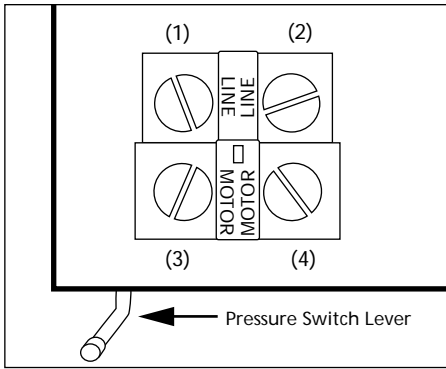

Figure 4
- Position black motor wire underneath screw head #4 (See Fig. 4), then tighten screw to secure wire. Position black line wire underneath screw head #2, then tighten screw to secure wire.
- Position white line wire underneath screw head #1, then tighten screw to secure wire. Position white motor wire underneath screw head #3, then tighten screw to secure wire (See Fig. 4).